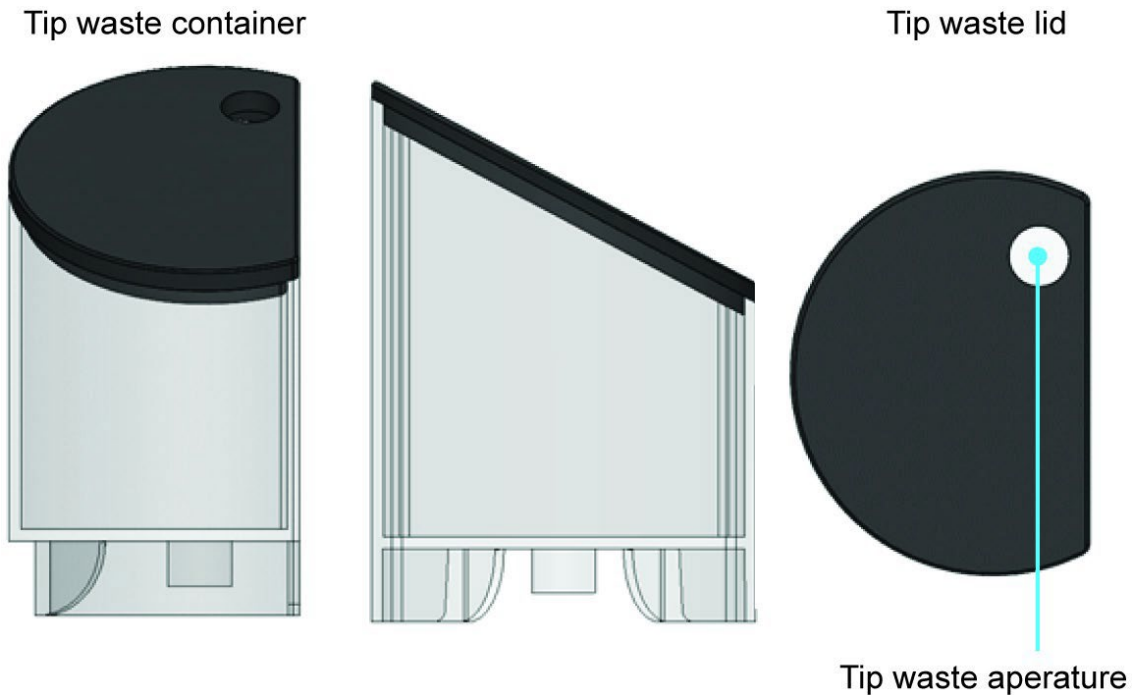

Figure 5.6 Tip waste
The instrument contains two tip waste compartments (Figure 5.6). The default tip waste compartment is on the left-hand (LH) side. The right-hand (RH) side is a mirror part/assembly, not used in the current PROmate workflow.
The door moves vertically and is hand operated. Hold the handle centrally and simply lift or lower the door. There are magnetic catches that hold the door securely in either position. The door is free to move between the magnetic catches but has no holding position. The door can only be left up or down, and it must be down to run a task or to perform UV light function (Figure 5.6).